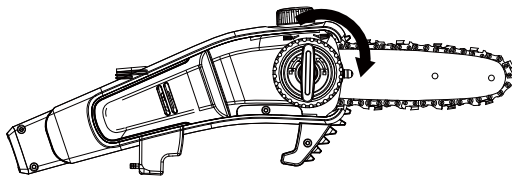

Fig. 9
5. Fit the chain cover and tighten the chain cover by turning the chain cover locking knob clockwise until it is tight. (Fig.9)